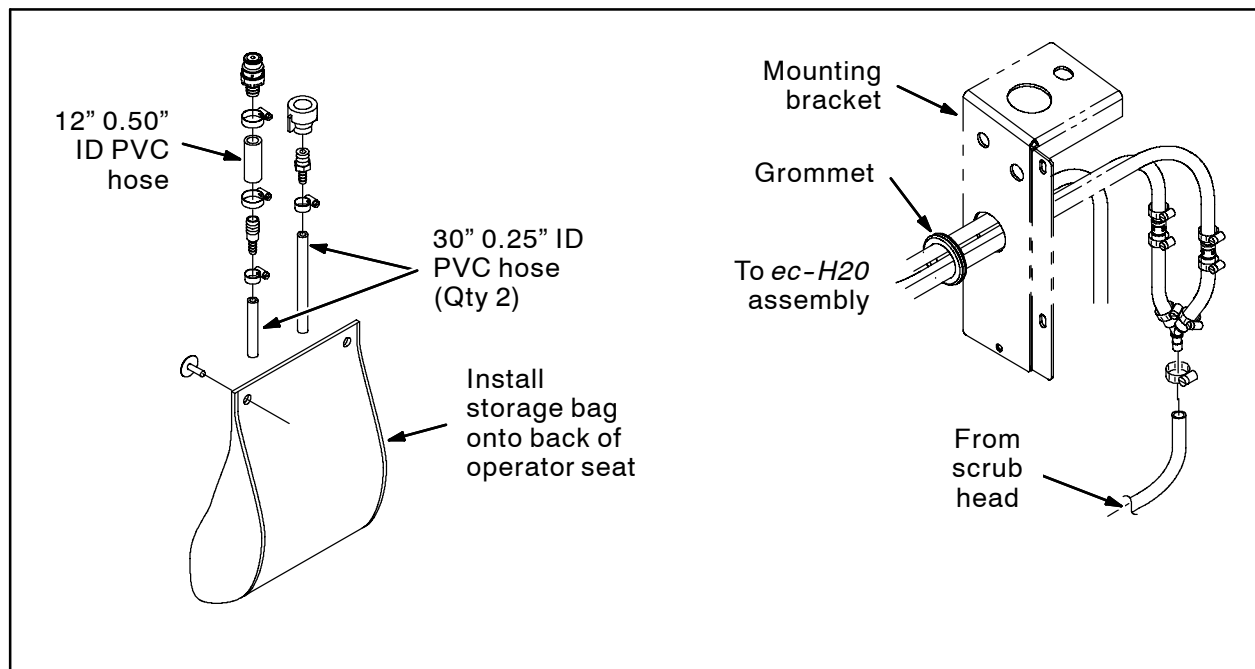

FIG. 10
40. Slide the grommet onto the hoses /cables on the *ec-H20* assembly. Refer to Fig. 10.
44. Install the grommet into the mounting bracket. Refer to Fig. 10.
48. Install the storage bag onto the back of the operator seat. Refer to Fig. 10.
49. Assemble the *ec-H20* flush hose assemblies. Refer to Fig. 10.